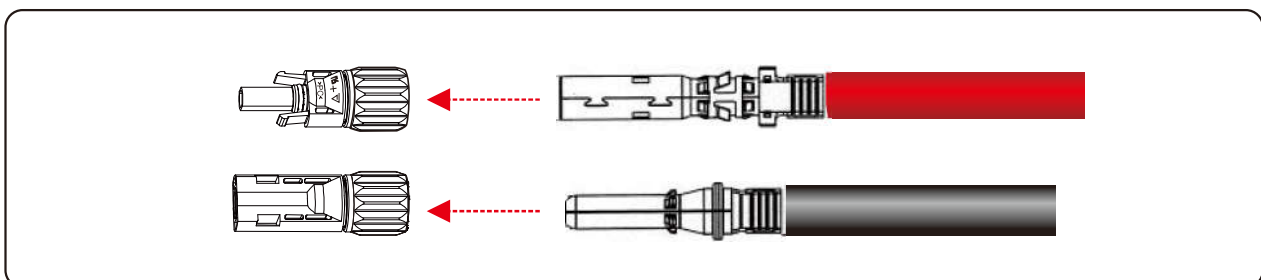

Figure 5.13 Connecting positive and negative connectors
**Step 3** Insert the crimped positive and negative power cables into the corresponding positive and negative connectors until a "click" sound is heard, as shown in Figure 5.13.